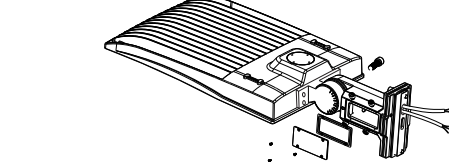

Figure 7
- Step 1: Remove the bracket mounting screws on the fixture, run the wires through the bracket. (Figure 7)